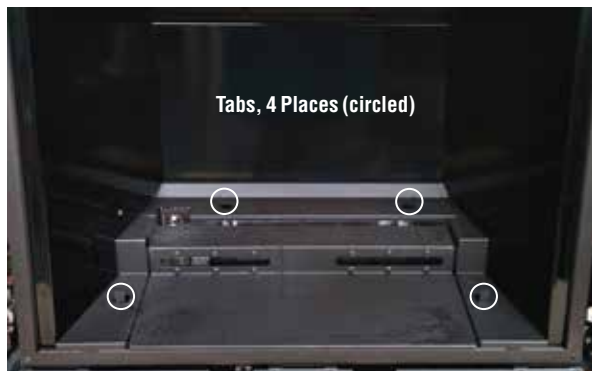

Figure 17
1. Install the rear log on the back locating tabs (**Figures 17 and 18**).
2. Install the short log (with the locating pin on top) on the left side locating tab, flat end facing toward the back (**Figures 17 and 18**).
3. Install the other short log on the right side locating tab, flat end facing back (**Figures 17 and 18**).